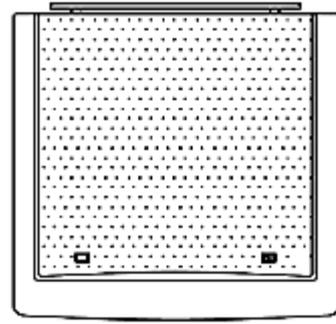

fig. 2
1. Remove the two cover caps on the worktop carefully using a small pointed object and unscrew the two worktop-screws (fig. 1). Then unscrew the screws on the back. Remove the worktop and the top hinge bracket (fig. 2).
7. Place the worktop upside down. Remove the hinge bracket (with axis, fig. 2) and fix it on the opposite side. Do not tighten the screws too firmly.